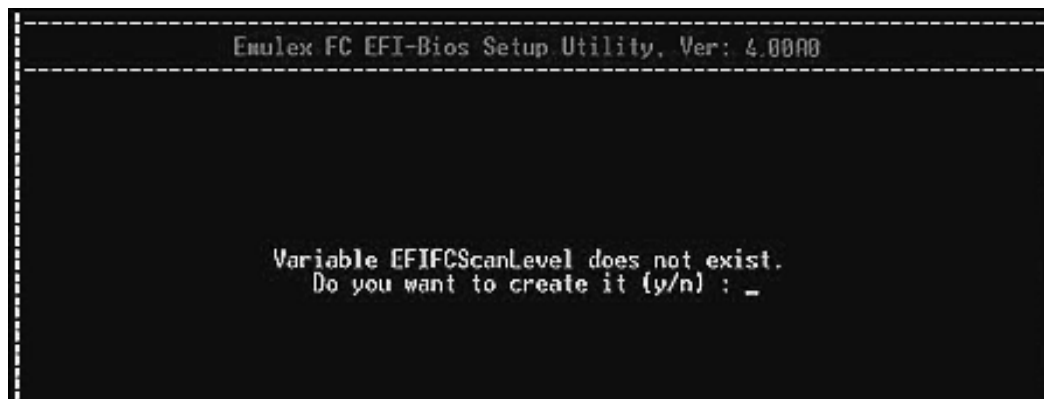

Figure 39: No Existing EFiFcScanLevel Variable screen
- If the EFiFcScanLevel variable does not exist in the EFI BIOS NVRAM store, the EFIBoot configuration utility prompts you to create it, as shown in Figure 39.